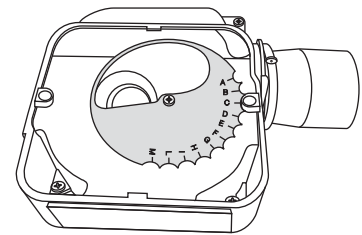

Figure 10-4: Burner air adjuster disc (shown set to position C)
It is essential that this internal shutter disc be correctly set to position 'C'. Refer to Figure 10-4.
4. The secondary air shutter disc is factory set in position 'C' – i.e. with the cut-out marked C located against the die-cast boss on the fan housing. See Figure 10-4.